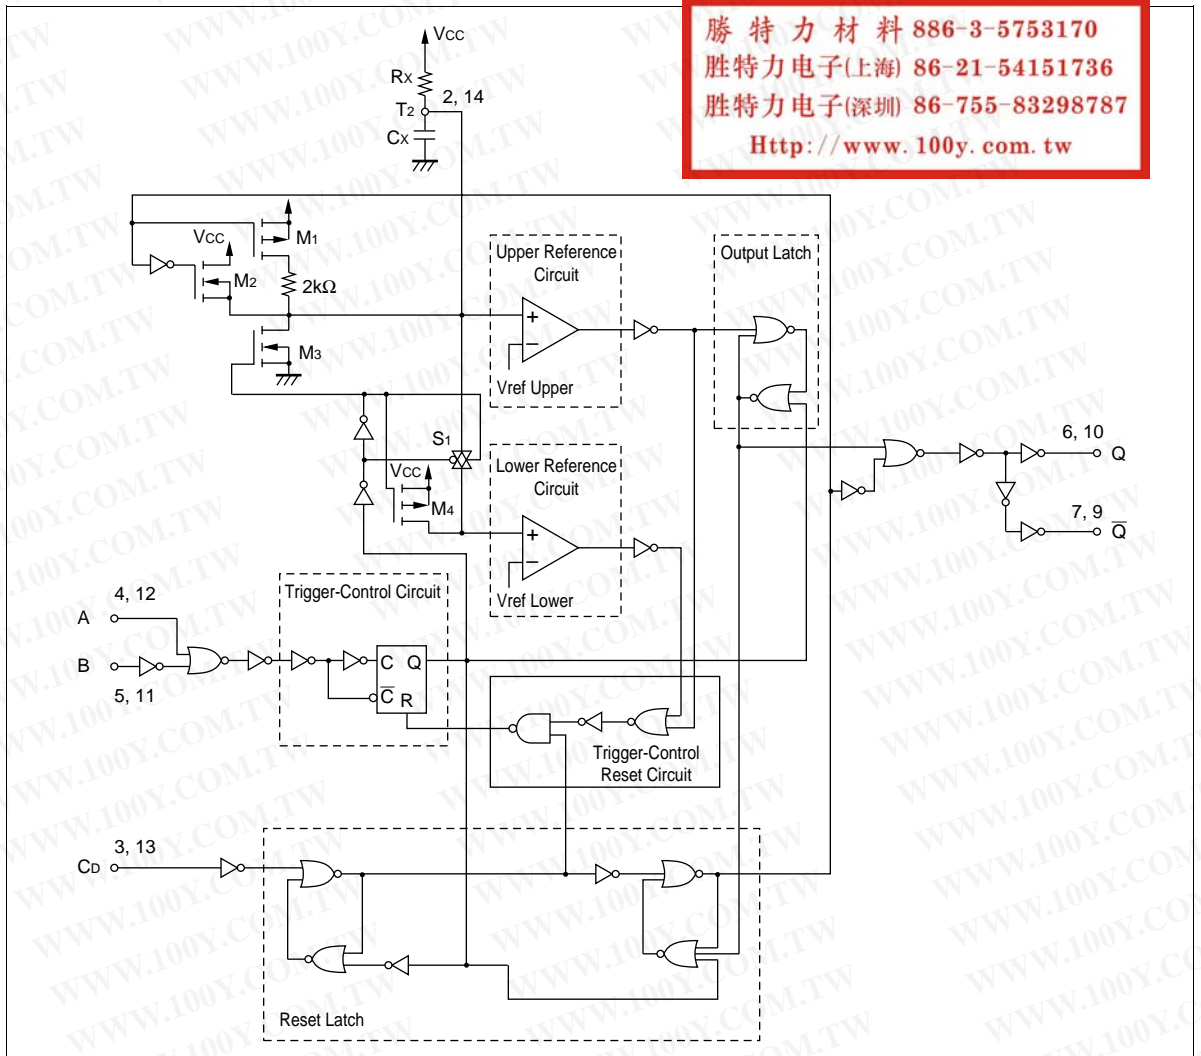
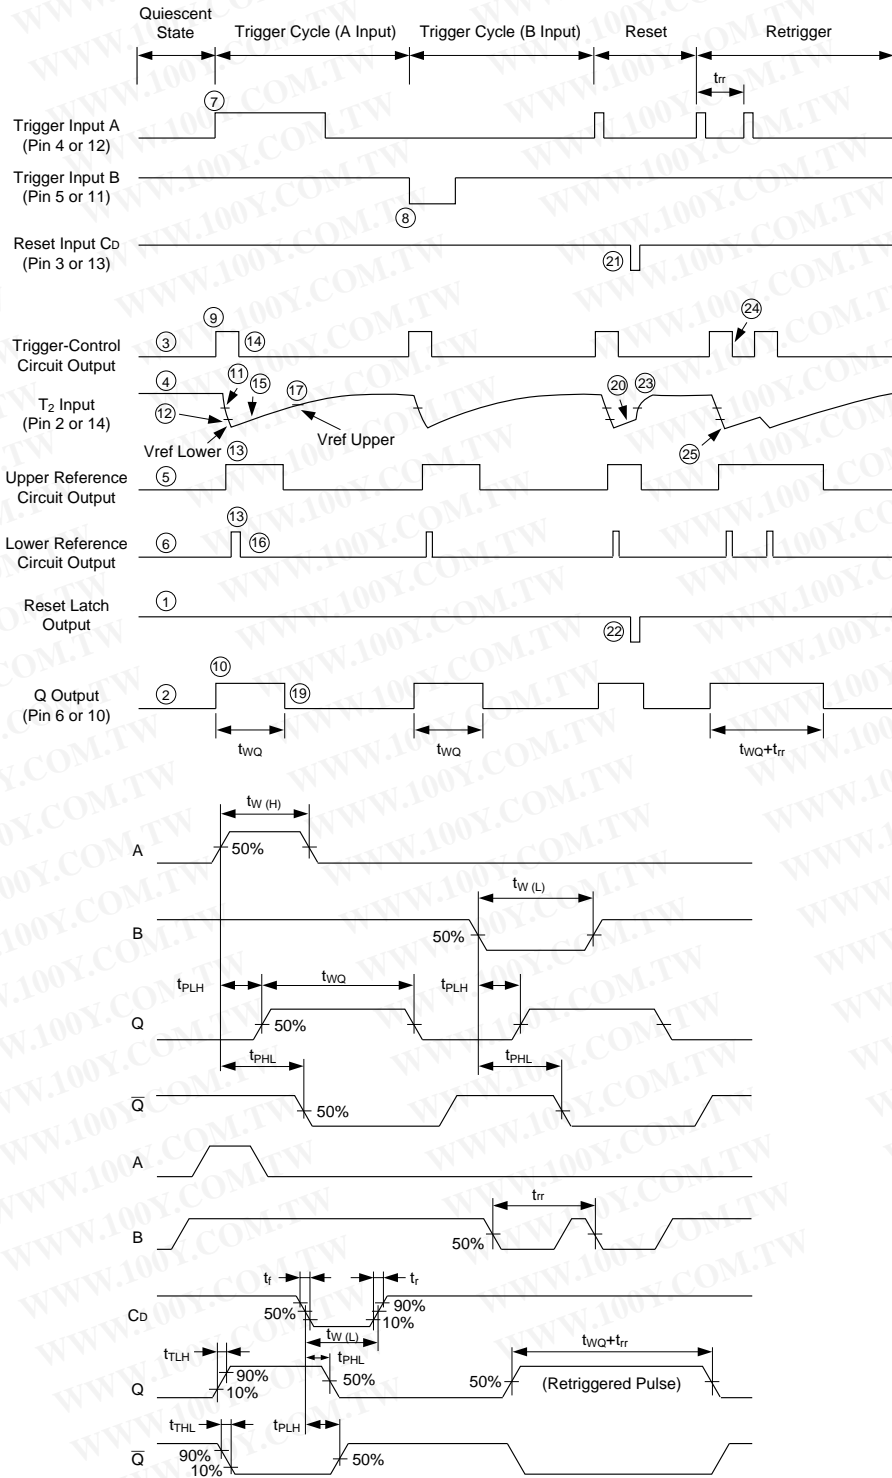
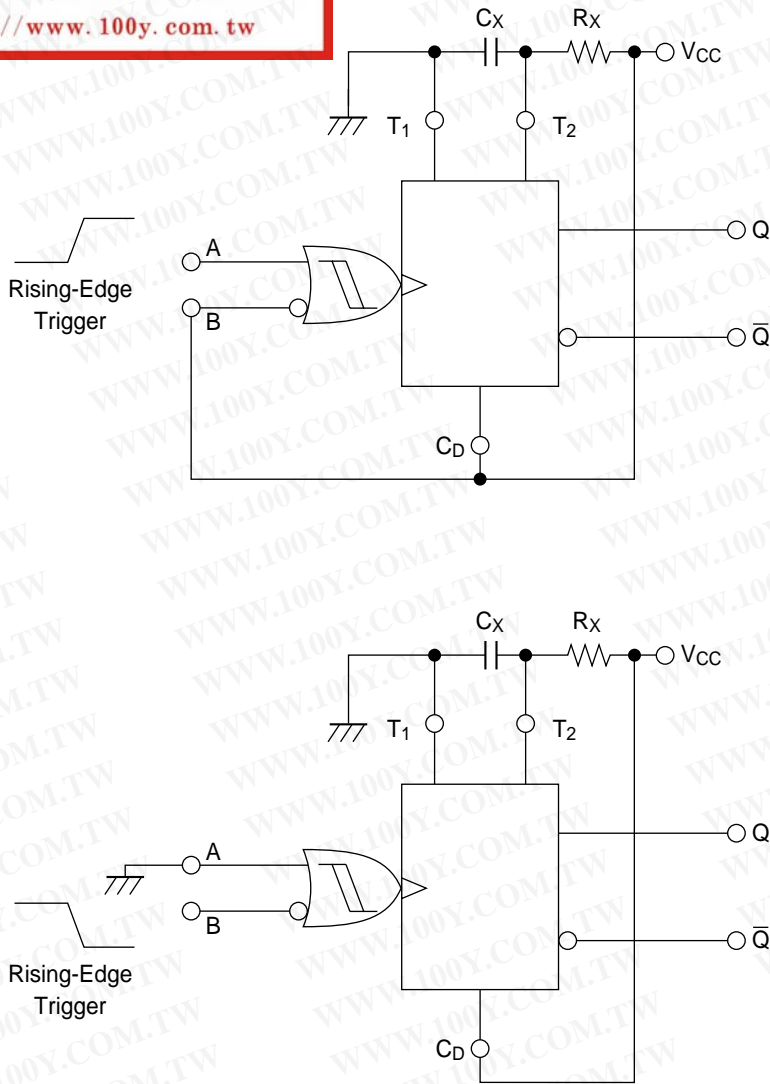

Fig. 1 Function Diagram
Fig. 2 Timing Diagram
Fig. 3 Retriggerable Monostable Circuitry
Fig. 3 shows the HC4538 configured in the retriggerable mode. Briefly, the device operates as follows (refer to Fig. 1): In the quiescent state, the external timing capacitor, C_x , is charged to V_{CC} . When a trigger occurs, the Q output goes high and C_x discharges quickly to the lower reference voltage ($V_{ref\ Lower} = 1/3 V_{CC}$). C_x then charges, through R_x , back up to the upper reference voltage ($V_{ref\ Upper} = 2/3 V_{CC}$), at which point the one-shot has timed out and the Q output goes low.
The following, more detailed description of the circuit operation refers to both the function diagram (Fig. 1) and the timing diagram (Fig. 2)
In the quiescent state, before an input trigger appears; the output latch is high and the reset latch is high (1 in Fig. 2). Thus the Q output (pin 6 or 10) of the monostable multivibrator is low (2 Fig. 2).
When used in the retriggerable mode (Fig. 3), the HC4538 may be retriggered during timing out of the output pulse at any time after the trigger-control circuit flip-flop has been reset (24). Because the trigger-control circuit flip-flop resets shortly after C_X has discharged to the reference voltage of the lower reference circuit (25), the minimum retrigger time, t_{rr} (Switching Waveform 1) is a function of internal propagation delays and the discharge time of C_X :